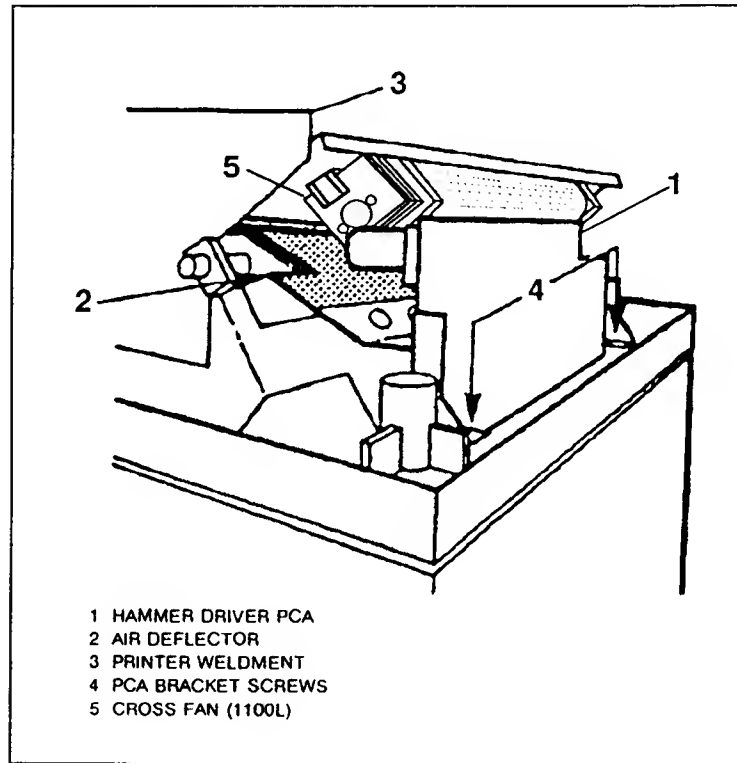

Figure 6-7. Hammer Driver PCA Air Deflector Placement
- From each end, remove the screw which holds the PCA bracket to the printer base (Figure 6-7, item 4).
When replacing the PCA, it is IMPORTANT that the plastic shield (Air Deflector) be positioned as shown in Figure 6-7. This shield is required to direct air flow over the printbar to maintain proper cooling (840L).